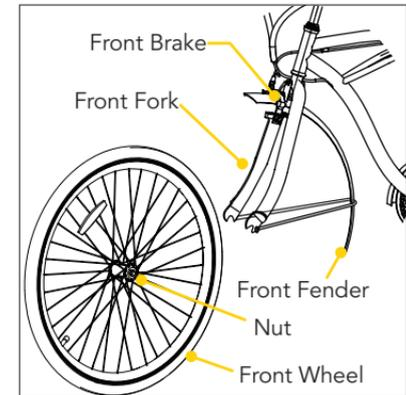

Fig. 2
- Step 4.** Hold the nut on one side and tighten the nut on the other side of the wheel onto the fork (Fig. 2).